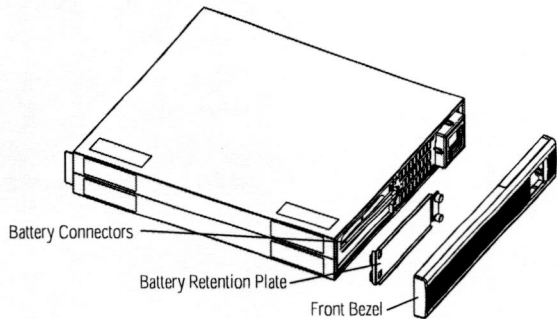

Fig. 28: Removing Front Bezel and Battery Retention Plate
2. Once the bezel is removed, unscrew the two thumb screws on the battery retention plate located on the left (bottom) side of the unit (fig. 28) and remove the plate.